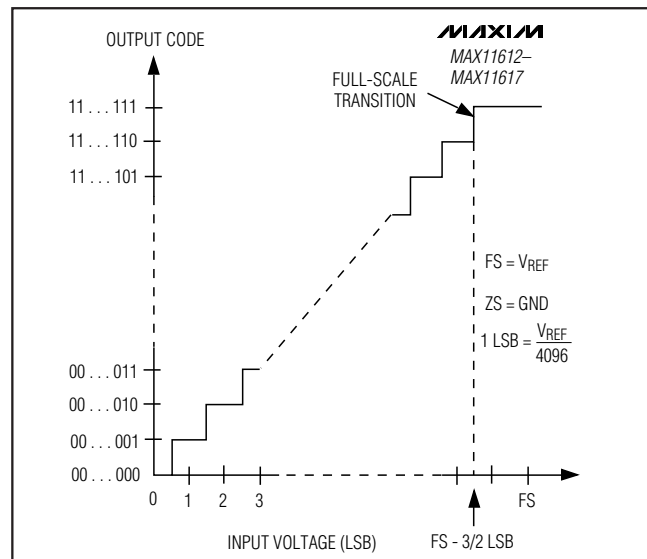

Figure 12. Unipolar Transfer Function
Output data coding for the MAX11612–MAX11617 is binary in unipolar mode and two's complement in bipolar mode with 1 LSB = (VREF/2N) where N is the number of bits (12). Code transitions occur halfway between successive-integer LSB values. Figures 12 and 13 show the input/output (I/O) transfer functions for unipolar and bipolar operations, respectively.